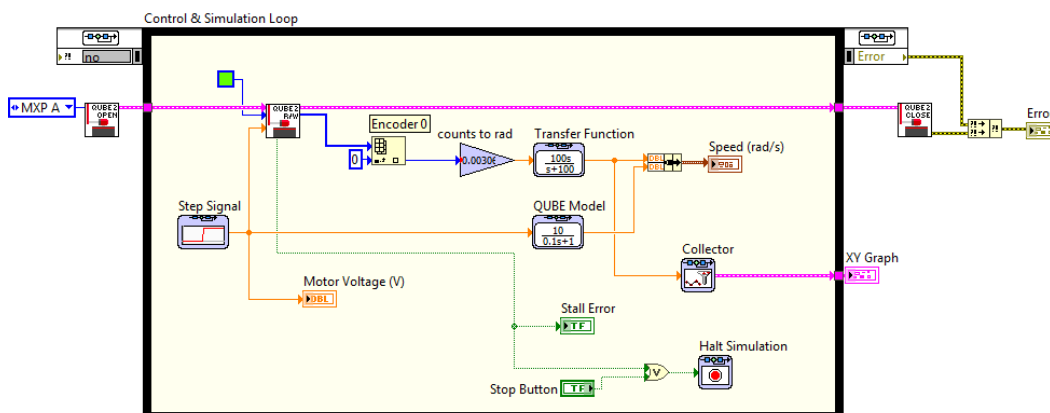

Figure 2.3: Validating bump test model
- To check if your derived model parameters K and τ are correct, modify the VI to include a Transfer Function block with the first-order model in Equation 1.1, as shown in Figure 2.3. Display both the measured and simulated QUBE-Servo 2 responses in one waveform chart (using a Bundle function from the *Programming | Cluster, Class, & Variant* palette). Run the VI. Attach a figure displaying both the measured and simulated response in one plot, as well as in the input voltage.